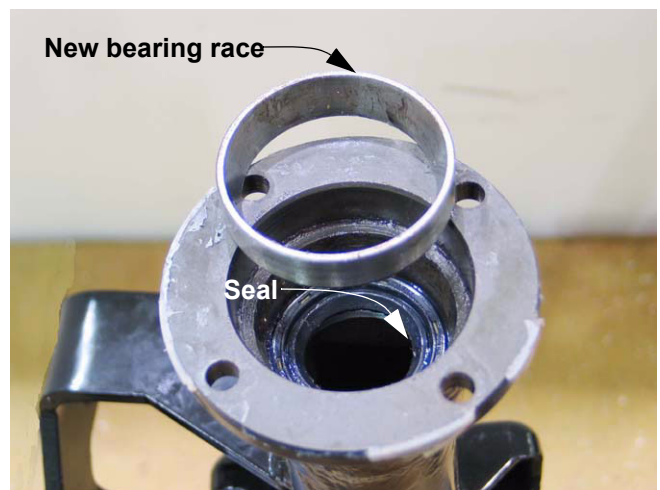

Figure 14.15
14.15. Install a new bearing race in the axle tube. See Figure 14.15.